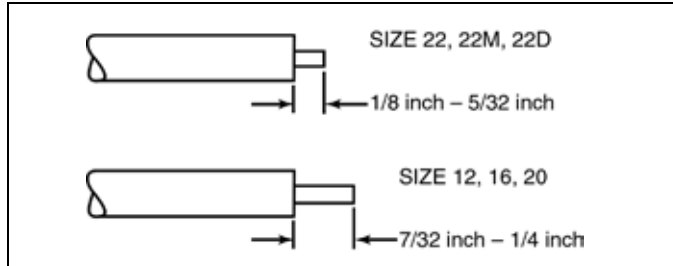

Figure 1 Stripping Dimensions
1. Strip wire to required length. (See Figure 1) When using hot wire stripping do not wipe melted insulation material on wire strands; with mechanical strippers do not cut or nick strands.